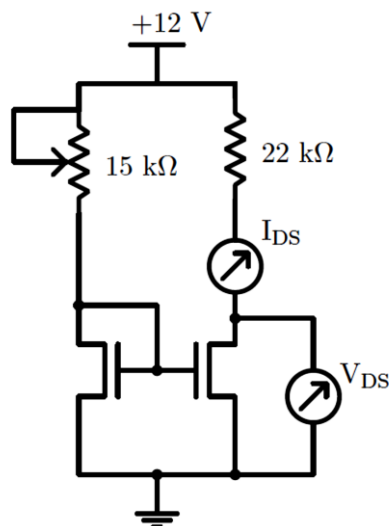

Figure 1: NMOS current mirror circuit
1. Connect the circuit of an NMOS current mirror as shown in Figure 1 on a breadboard using CD4007 IC for the MOSFETS.